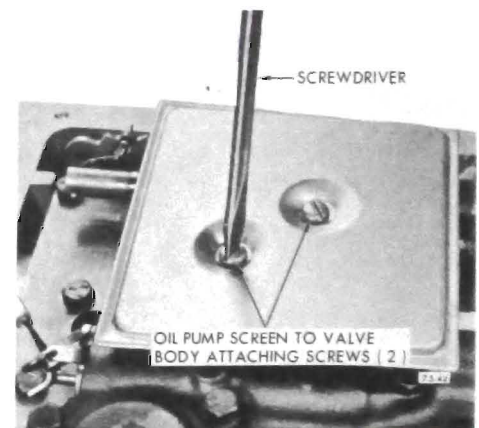

Figure 75-68
1. Remove two (2) strainer assembly to valve body attaching screws. See Figure 75-68.